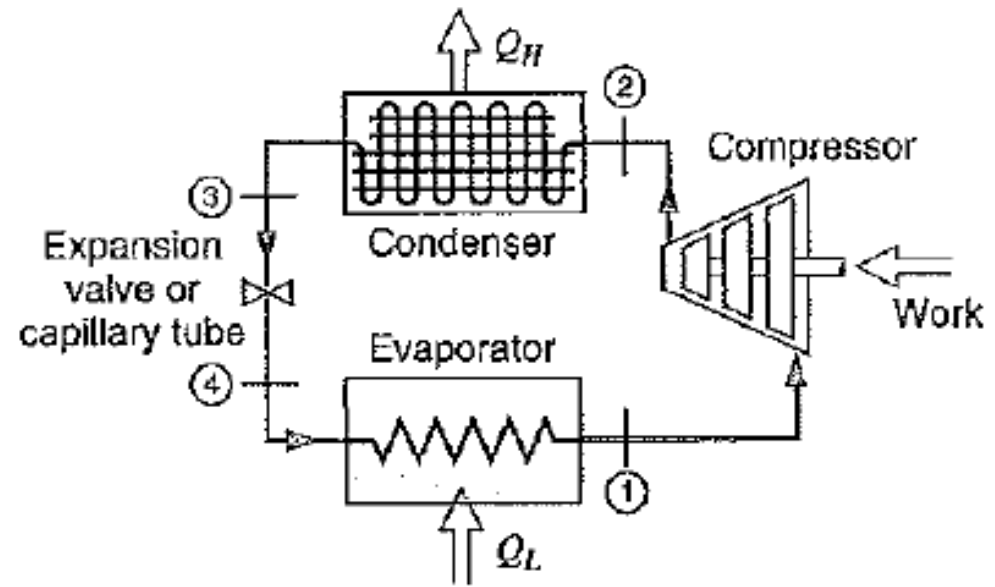

FIGURE 6.1: Basic components of the ideal vapor compression refrigeration cycle
- ✓ an evaporator, as shown in Fig. 6.1.